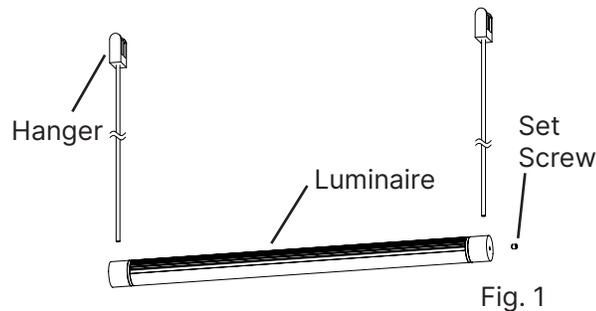

Fig. 1
1. Align **Linear Rotational Luminaire** with both **Hangers** (Fig. 1).